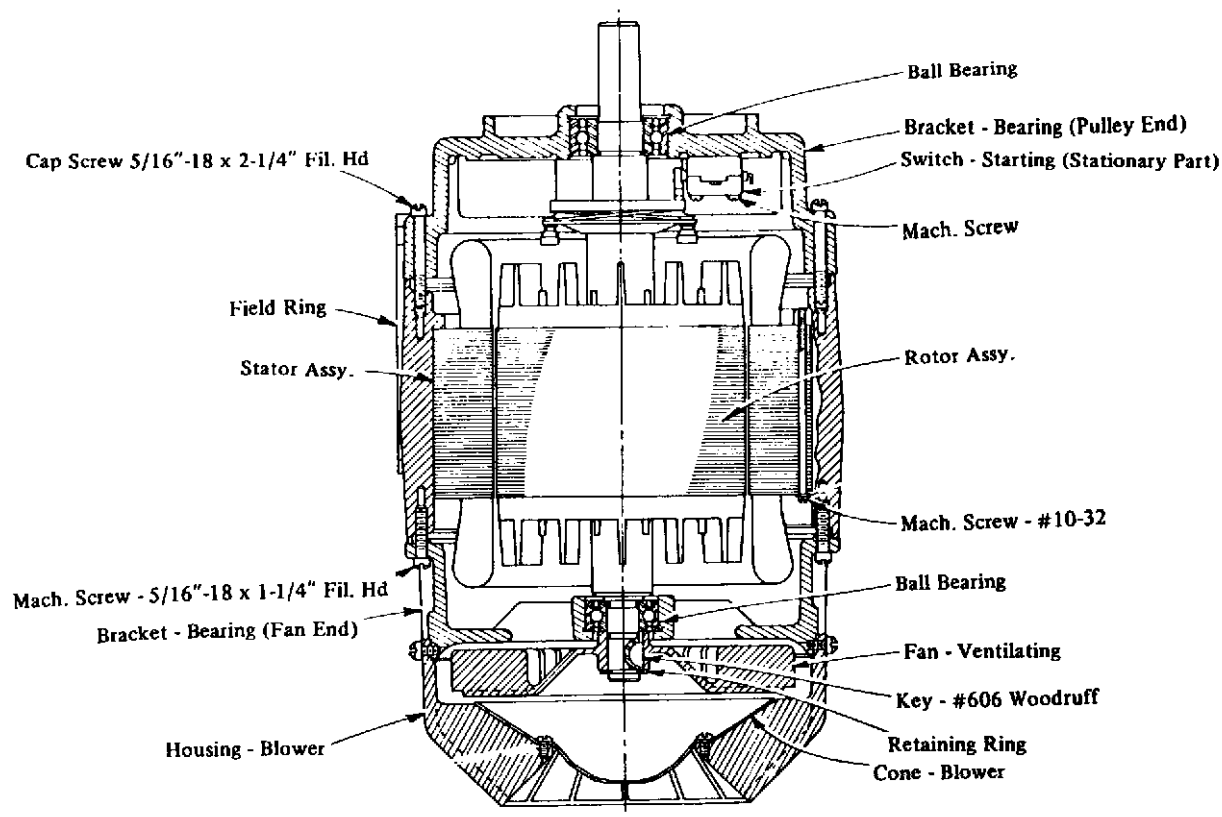

Fig. 8-2
Single phase motors (Fig. 8-2) have a starting circuit consisting of two start capacitors, centrifugal switch and start windings.
B. Start Switch (Fig. 8-2).
5. Motor Disassembly (Fig. 8-2).
6. Motor Reassembly (Fig. 8-2).